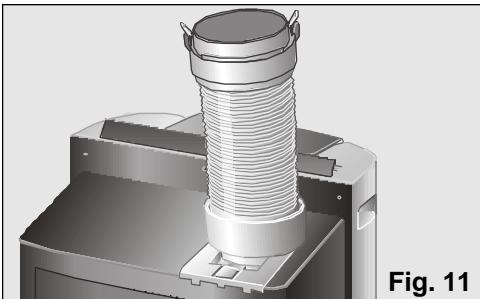

Fig. 11
- ❑ Remove the diffusion duct and set the air expulsion tube to the position shown in Fig. 11.